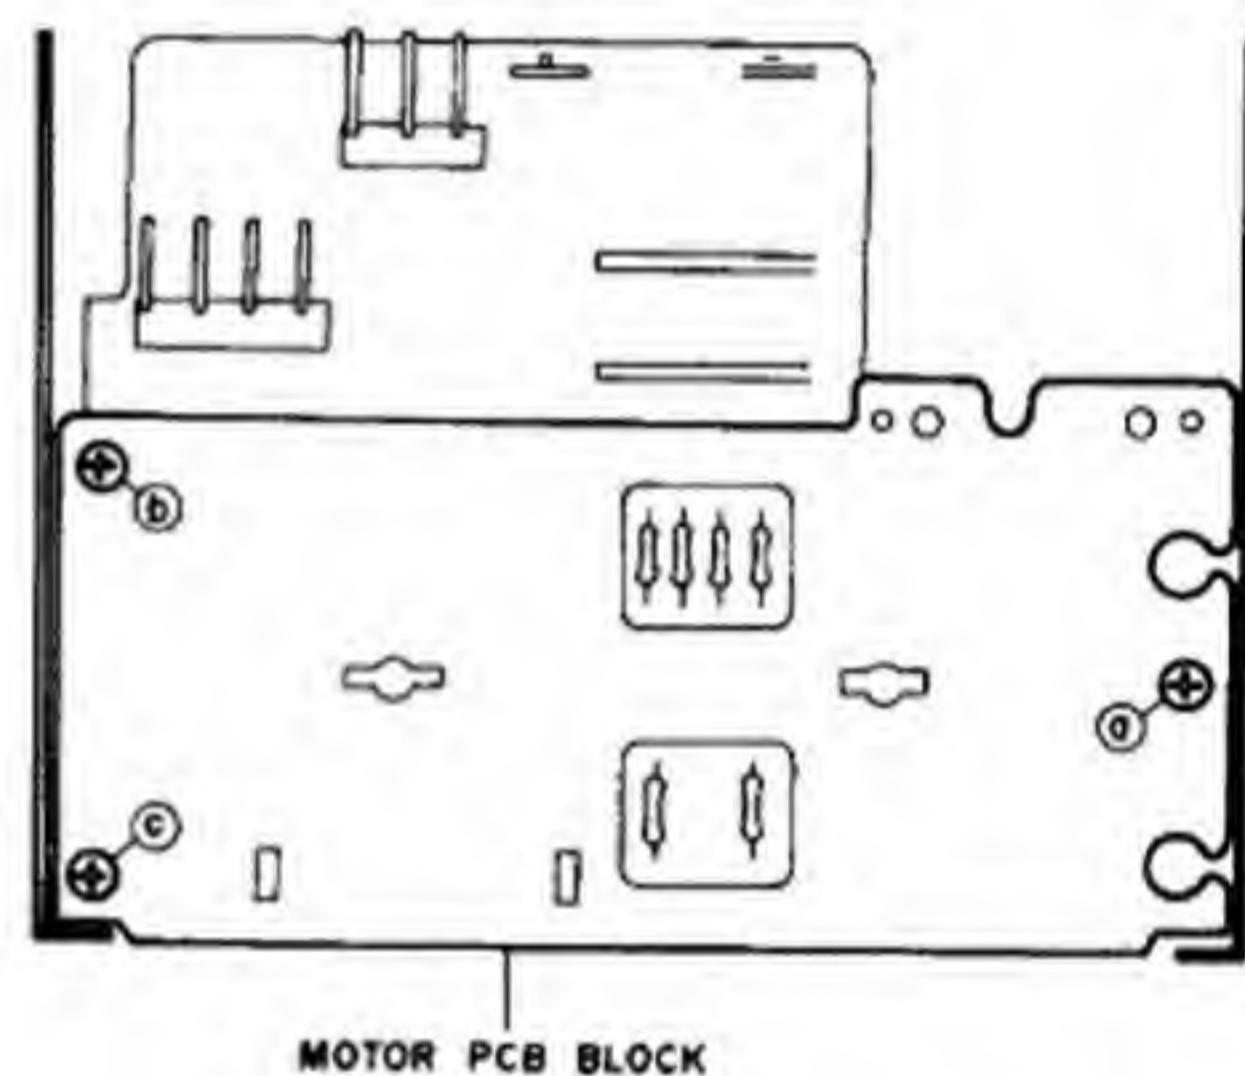

Fig. 4-9
- 2) Remove motor PCB block securing screws **a**, **b** and **c** and take out the motor PCB block. (See Fig. 4-9.)